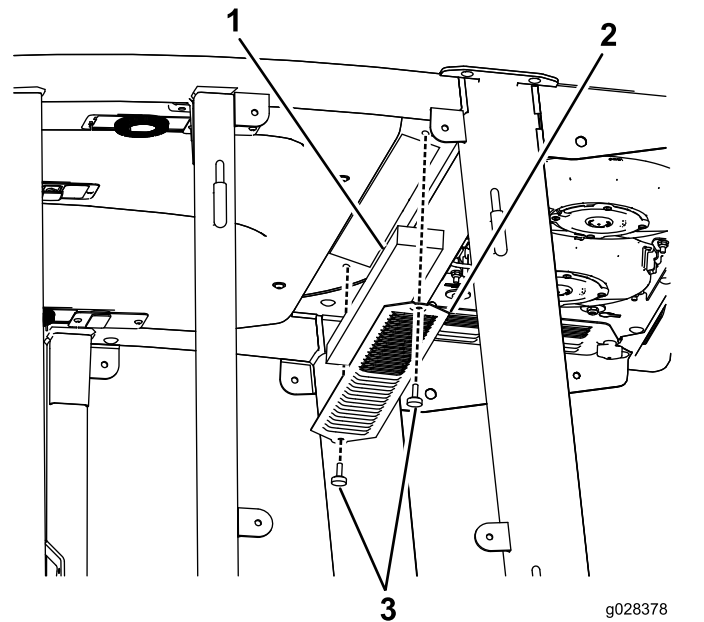

Figure 69
1. Remove the screws and grates from over both the in-cab and rear cab air filters (Figure 69).